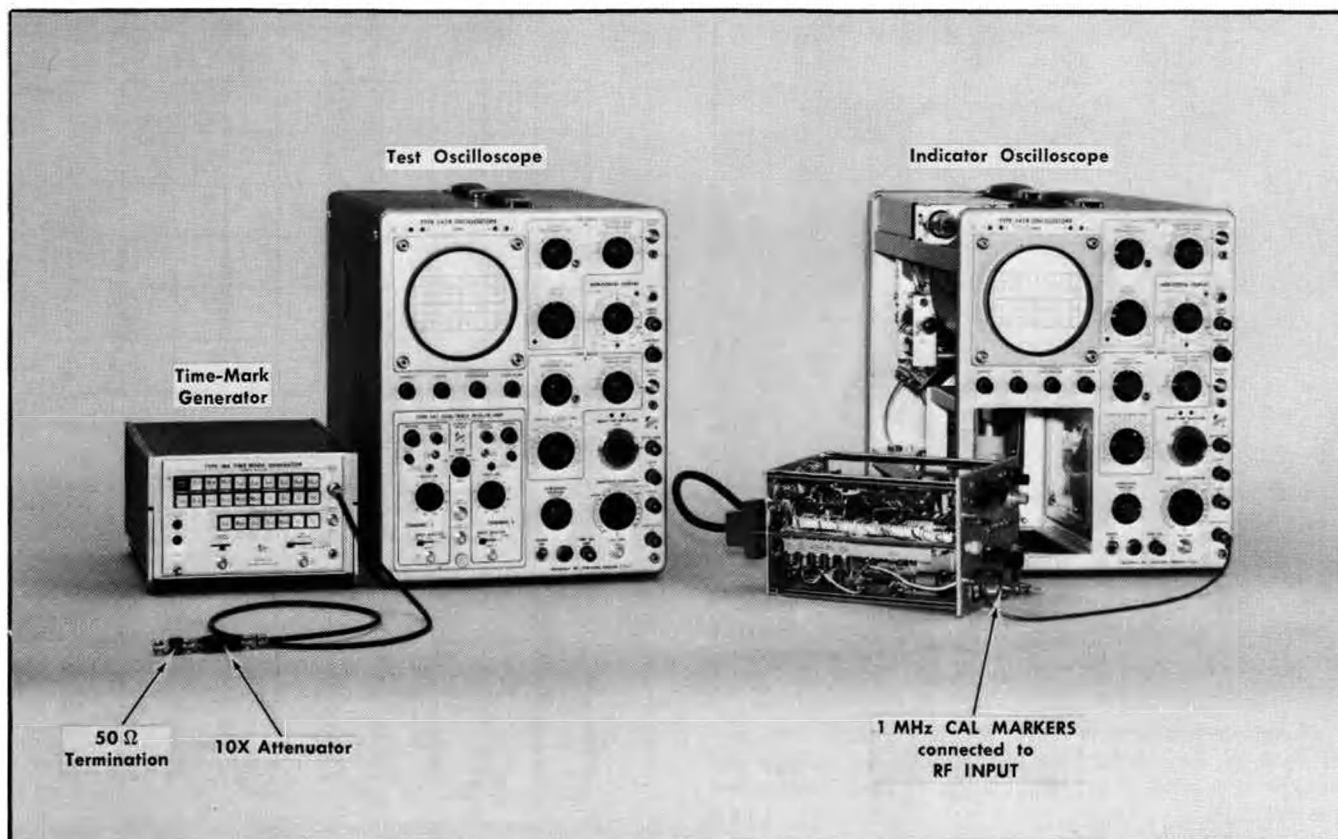

Fig. 5-14. Equipment setup to adjust the internal 1 MHz reference oscillator (step 5).
- The test equipment setup is shown in Fig. 5-14.